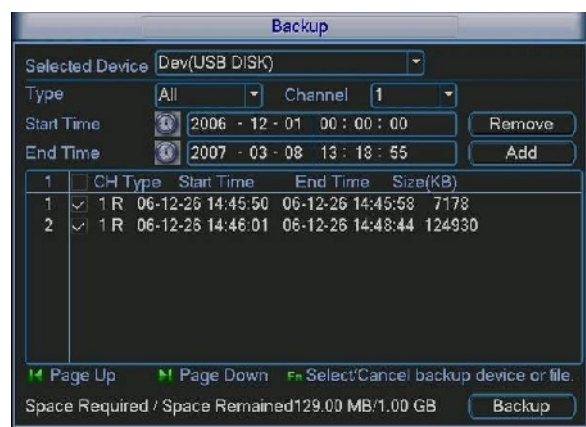
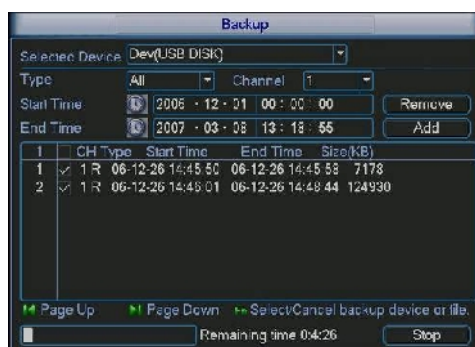

Figure 4-28
Figure 4-29
- ⌘ Period: Click set button, you can see an interface is shown as in Figure 4-25. Here you can set for business day and non-business day. In Figure 4-28, click set button, you can see an interface is shown as in Figure 4-29. Here you can set your own setup for business day and non-business day.
Click add button, system begins search. All matched files are listed below. System automatically calculates the capacity needed and remained. See Figure 4-28.
Click backup button, system begins burning. At the same time, the backup button becomes stop button. You can view the remaining time and process bar at the left bottom. See Figure 4-29.